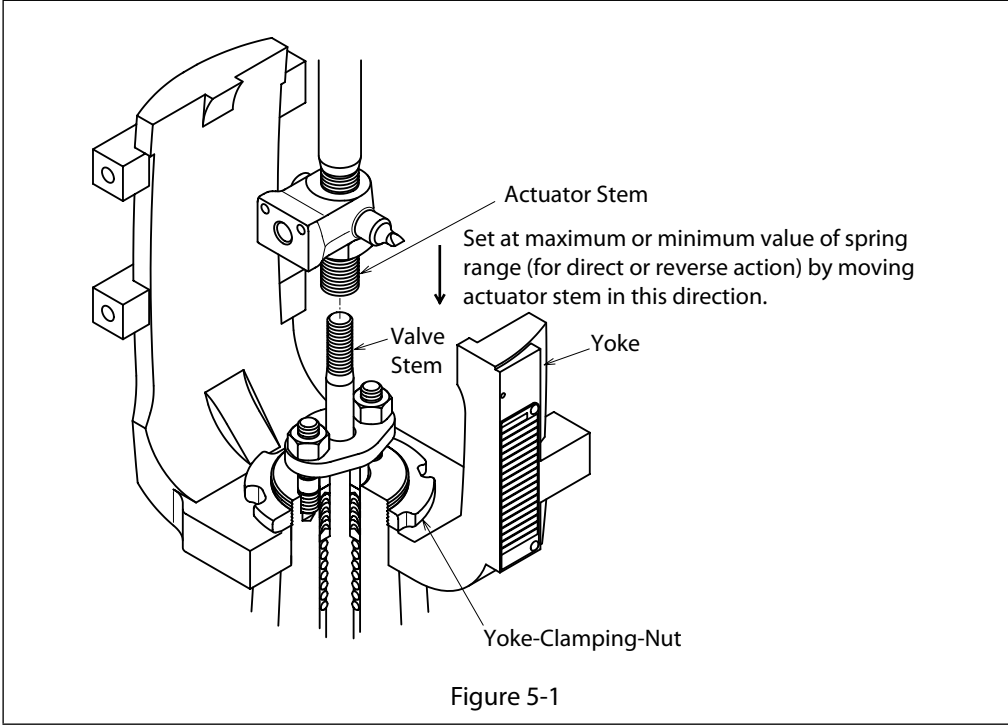

Figure 5-1
As a general rule the diaphragm type control Valves require no adjustment. However, when coupling an actuator to a valve body after removing the actuator for overhaul or other purposes, adjustment of travel (stroke) is necessary. For this adjustment, refer to Figure 4-7, Figure 5-1 and proceed as follows:
- (4) Apply to the actuator the maximum air pressure corresponding to the spring range indicated on the nameplate.
- (5) Increase the air pressure to the supply pressure and check that the actuator stem moves by 1 - 2 mm in response. (This movement represents the allowance of stroke.)
- (6) Decrease the air pressure once. Then increase it again to the maximum value corresponding to the spring range, in the increasing direction.
- (7) In the above state, align the actuator stem and valve stem on a straight line, adjust so that the thread of the stem connector mates with those of actuator stem and valve stem and securely tighten the clamping-bolts of the stem connector. (See Figure 5-1.)
- (4) Apply to the actuator the minimum air pressure corresponding to the spring range indicated on the nameplate, and check that the actuator stem moves by 1-2mm in response.
- (5) Increase the air pressure once. Then decrease it again to the minimum value corresponding to the spring range, in the decreasing direction.
- (6) Perform a procedure identical with that of Item (7) of "For the Direct Action Type." (See Figure 5-1.)